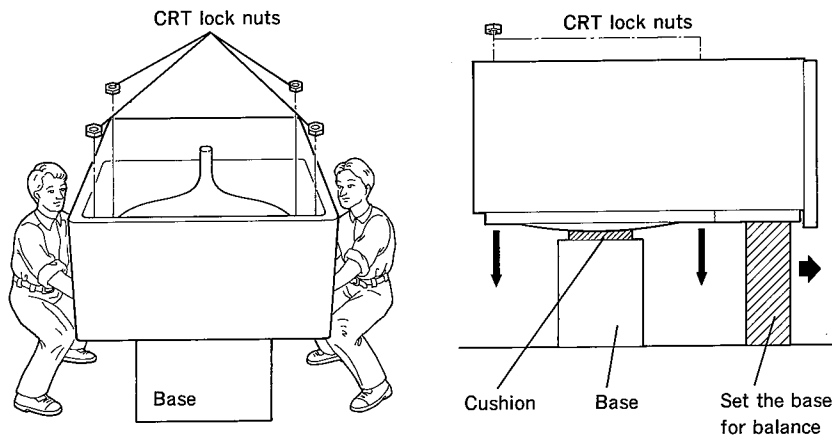

Fig. 2-3
5. Mount the set on the base so that center of picture tube is aligned with the center of the base, as shown in Fig. 2-3.